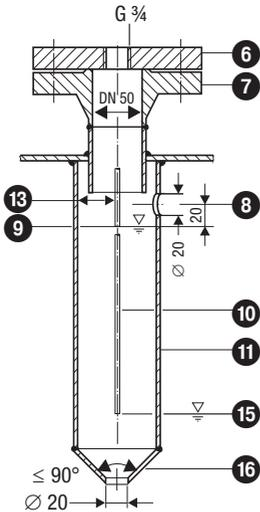

Fig. 4 Protection tube (provided on site) for installation inside the boiler
- One level electrode NRG 26-21 can be installed together with one GESTRA level electrode, one level switch or transmitter in a single protection tube or an external level pot (inside diameter DN80/DN100). **Fig. 4 - 7**. If the level limiting electrode is installed inside the vessel, it must be at least 40 mm away from the upper vent hole.